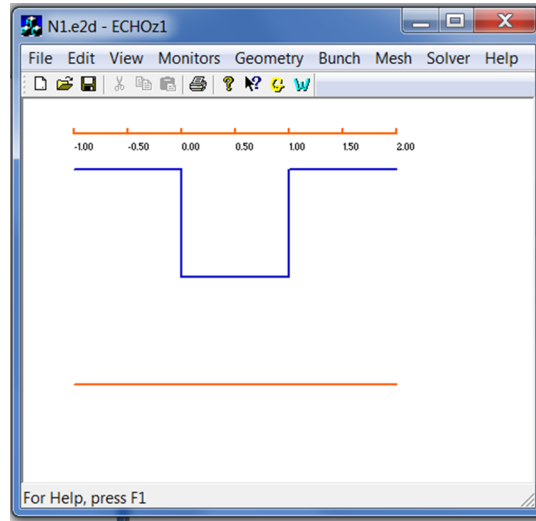

Figure 2.4: Geometry of round collimator.
- Go to menu "File/Open" and navigate to directory **Examples/ N1_RoundCollimatorLong/ ECHOz1**. Open the input file **N1.e2d**. You should see the geometry shown in Fig. 2.4.